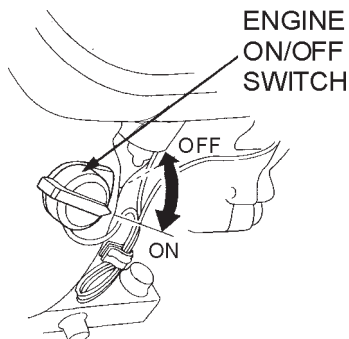

Figure 10. Engine ON/Off Switch
2. Place the **Engine ON/OFF switch** (Figure 10) in the "ON" position.
2. Place the **Engine ON/OFF switch** (Figure 10) in the "**OFF**" position.